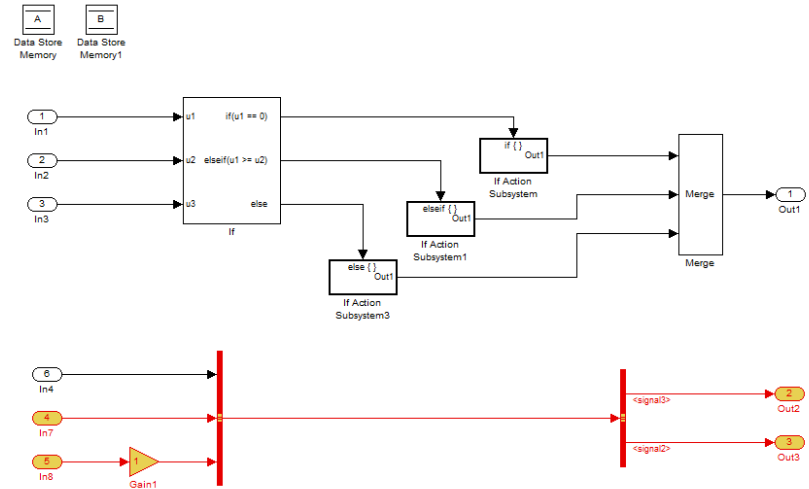

Figure 5: Resulting model after Coreach From Selected operation
3. Now, let us perform a coreachability analysis to find all the parts of the model which the Outport blocks Out2 and Out3 are dependent on. To do this, select both blocks, right-click on them, and select the **Coreach From Selected** option. The resulting model is shown in Figure 5. Blocks Out2 and Out3 are dependent on the Inport block In7 and In8 only, and it is interesting to note that In6 has no impact in the model.